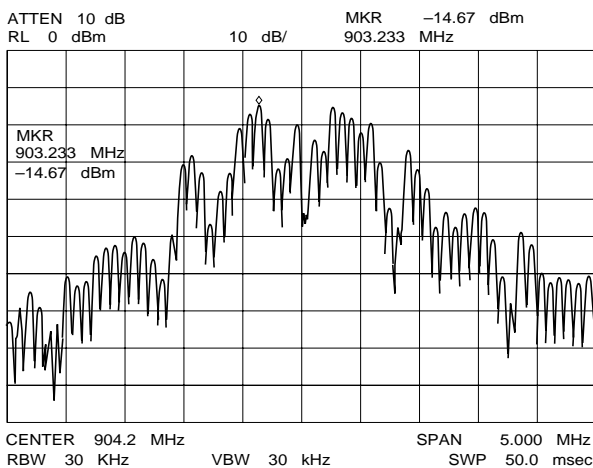
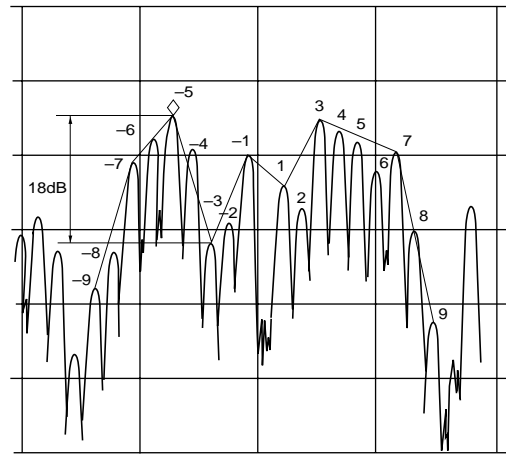

Fig. 3
Fig. 4
- If output wave form deteriorates, side band appears like Fig. 3 and Fig. 4.